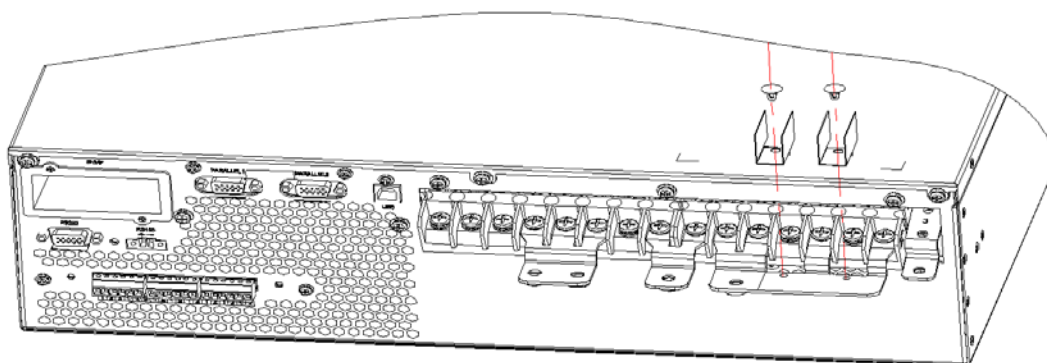

Fig. 3-16 Fix insulation film
3. In Figure 3-16, mount the insulating film (accessory) to the No.6 copper bar, and fixed in the corresponding position with the plastic rivet, as shown in figure 3-27